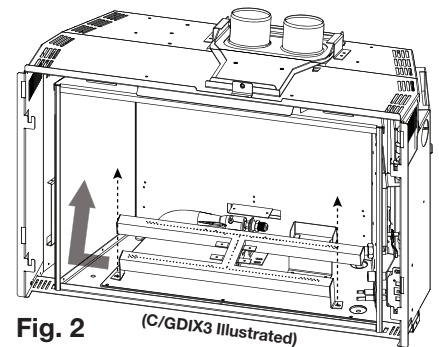

Fig. 2 (C/GDIX3 Illustrated)
3. Remove the 2 screws holding the burner tube, then slide it to the left, up, and out (**Fig. 2**).